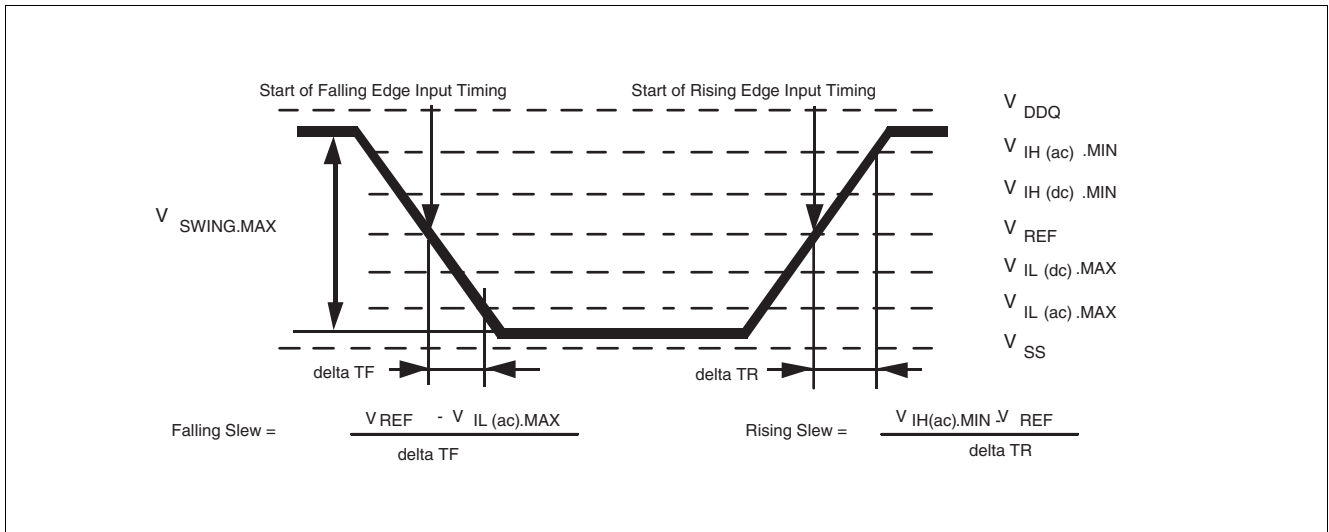

Figure 57 Single-ended AC Input Test Conditions Diagram
2) The input signal minimum slew rate is to be maintained over the range from $V_{IH(AC)min}$ to V_{REF} for rising edges and the range from V_{REF} to $V_{IL(AC)max}$ for falling edges as shown in Figure 57.